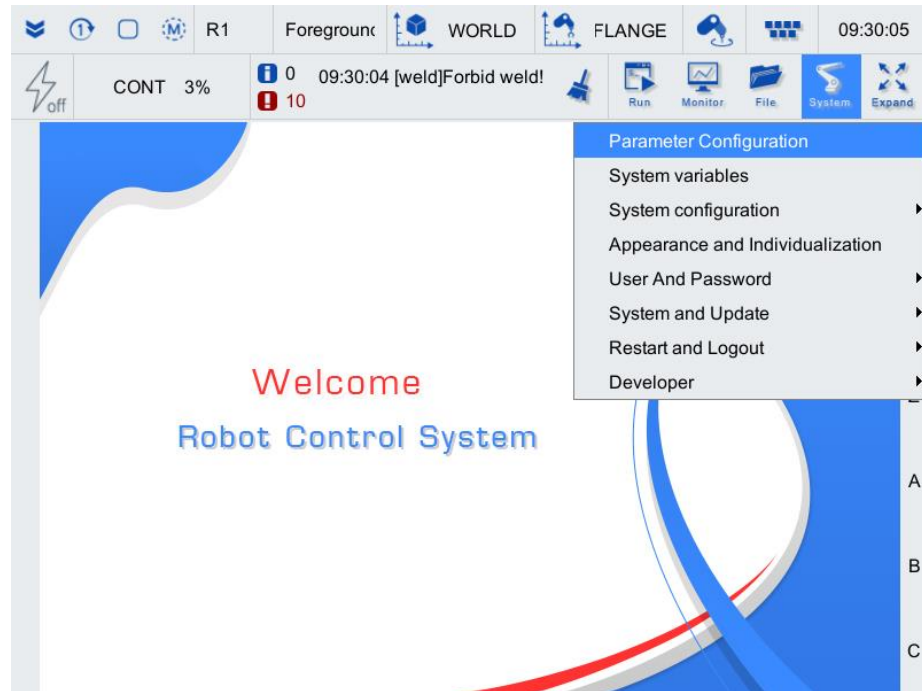

Figure 6-14 The main interface of the teach pendant
Step1. On the main interface of the teaching tool, click the [System/Parameter Configuration] option, as shown in Figure 6-14.